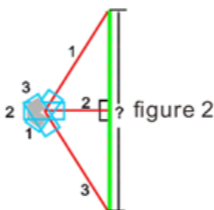

figure 2
- 1: With reference to figure 2, press the  key until the  symbol is displayed.